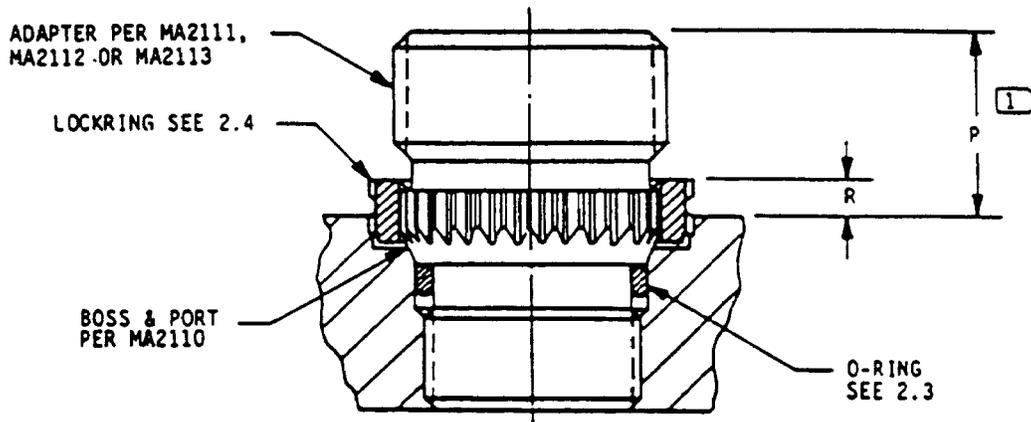

FIGURE 1 - INSTALLED ADAPTER
- 2.2 Adapters per MA 2111, MA 2112 and MA 2113 installed per this document into bosses and ports per MA2110 shall have a stand-off per dimension "P" Fig. 1 and Table I.